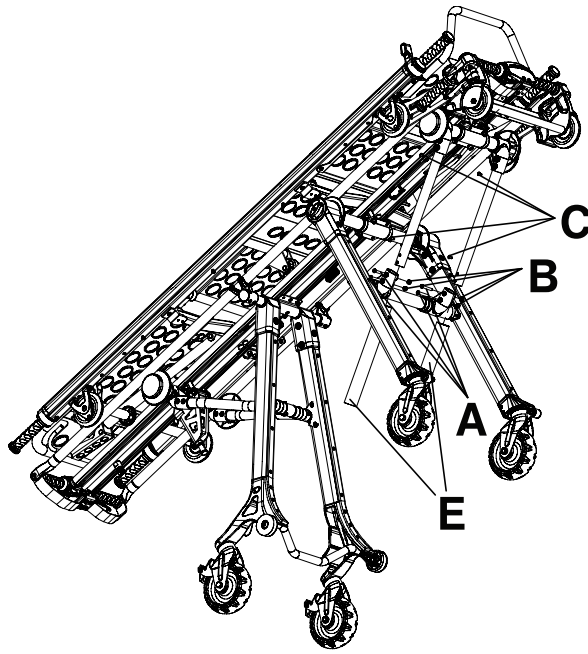

Figure 4 – Front wear strut strip replacement
3. Using a 5/32" hex wrench, remove the two button head cap screws (A) and nuts (B) (Figure 4).
4. Using a drill with a 1/4" bit, drill out the heads of the rivets (C) (Figure 4). Do not drill into the tube.
6. Remove and discard the bumper tube (E) (Figure 4). Pop rivet the new bumper tube into place.